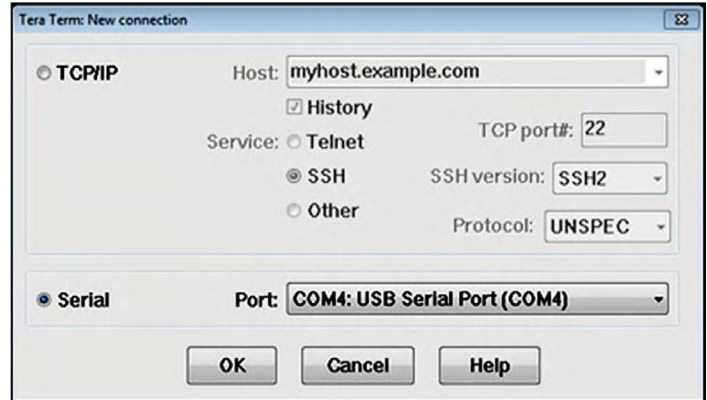

Figure 75: Tera Term com port selection
5. Select the appropriate *COM port*, as shown in *Figure 75* below, then click OK.